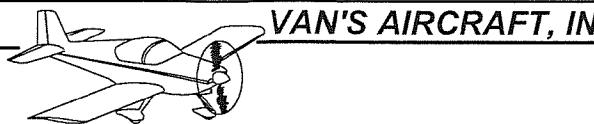

**FIGURE 3: LEFT FRONT SPAR ATTACHMENT BRACKET**
Step 3: Using the dimensions in Figure 3, make the HS-1008-L Left Front Spar Attachment Bracket from the length of AA6-187x2x2-1/2 angle provided in the kit. Be very accurate in drilling the 1/8" hole which will be used to locate the bracket on the front spar assembly.